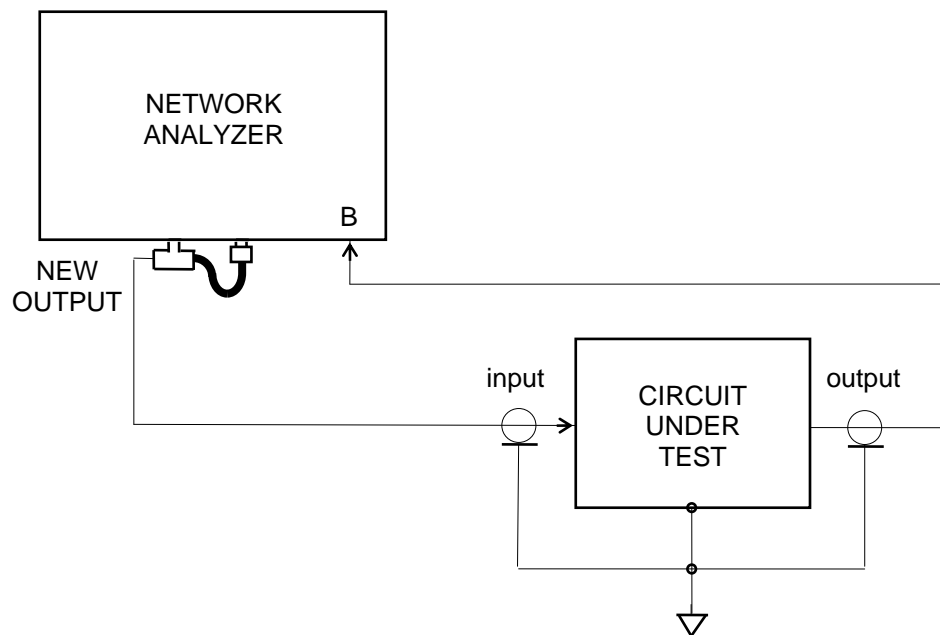

Figure 2. Circuit connection for frequency response measurement.
- b. Connect the circuit to be tested to the network analyzer as shown in Figure 2 below (use the input — A or B [shown] — for which the analyzer was calibrated).